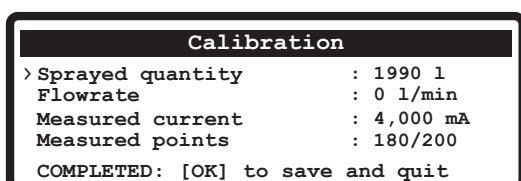

Fig. 31
- 11** If the calibration has not been manually ended, when the flowrate value reaches zero (Fig. 31) and remains so for at least 10 s, BRAVO 350 automatically finishes the procedure and displays the message **COMPLETED: OK to save and quit**.